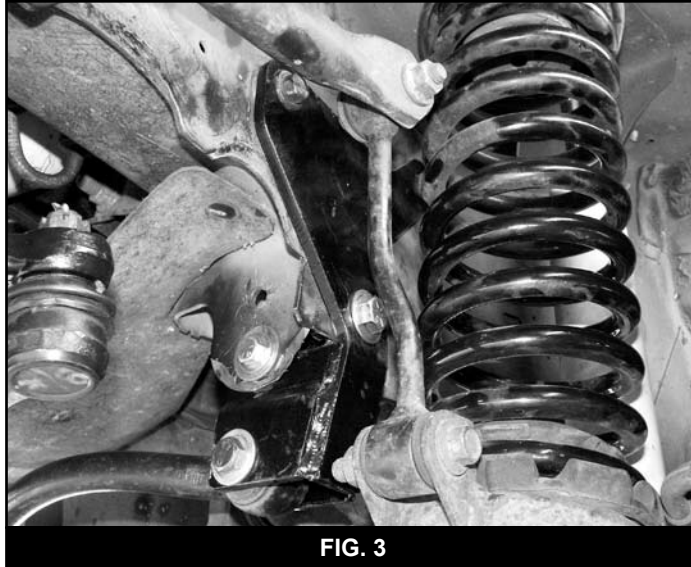

FIG. 3
7. Slide the provided track bar bracket (01491) in place (Fig 3). Position the provided 3/16" thick spacer washers (BP #727) between each of the upper mounting holes in the bracket and the body. Attach the bracket through the motor mount holes with 10mm x 120mm bolts and 3/8" USS flat washers (BP #727). Leave hardware loose.